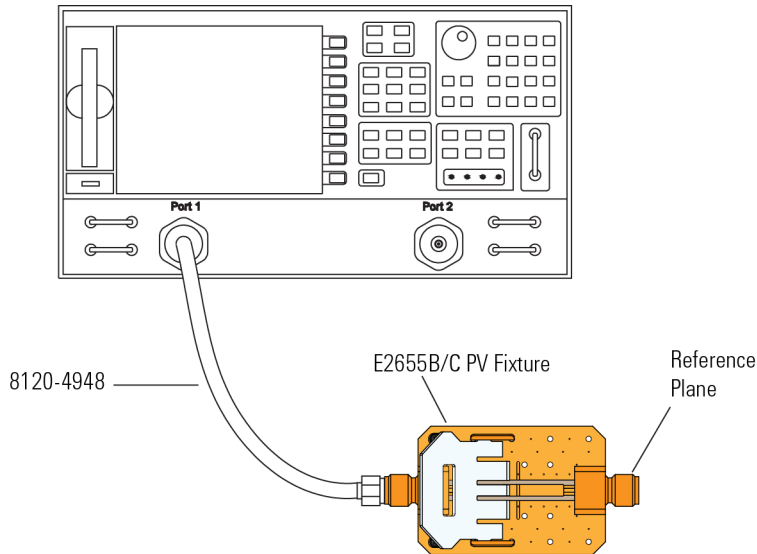

Figure 226 PV Fixture Connected to VNA
- 10 Connect one of the high quality SMA cables from the VNA's **Port 1** to the pincher side of PV Fixture as shown in **Figure 226**. The figure also identifies the calibration reference plane.